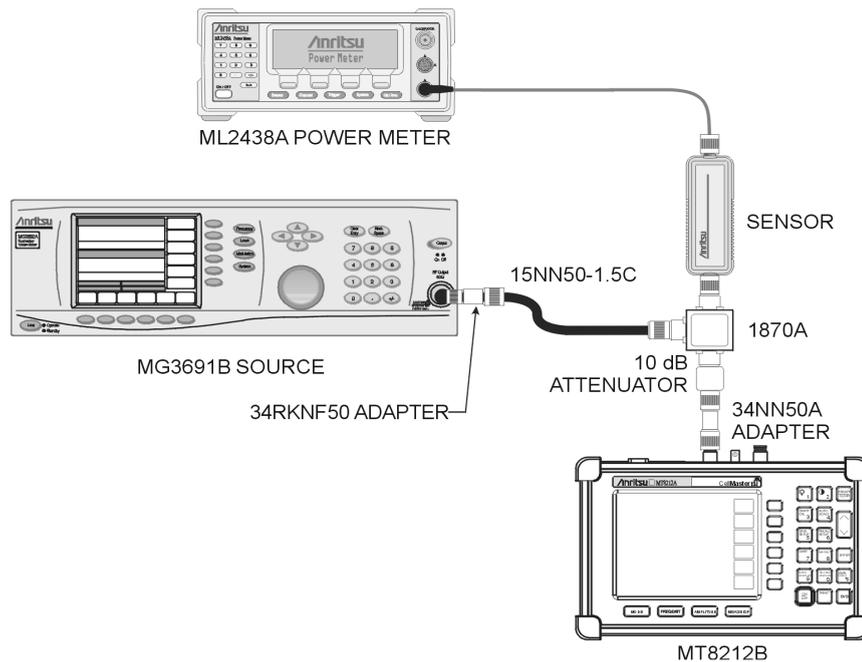

Figure 2-5. Power Meter Verification Setup
11. Remove sensor A, install the 34NN50A adapter to the end of the Attenuator, and connect to the MT8212B as shown in Figure 2-5.